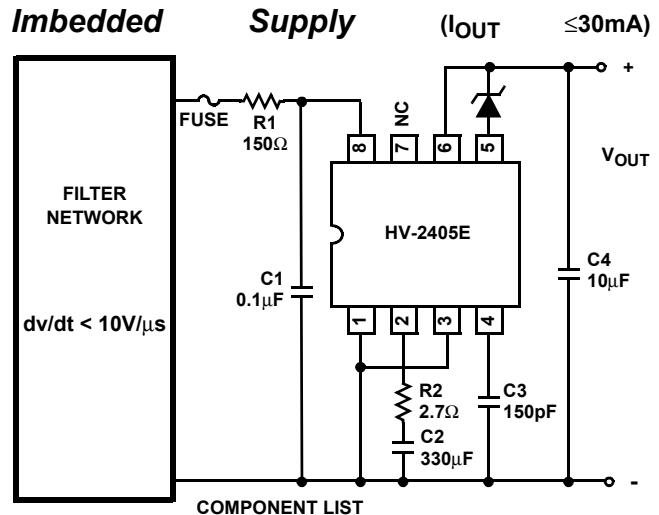
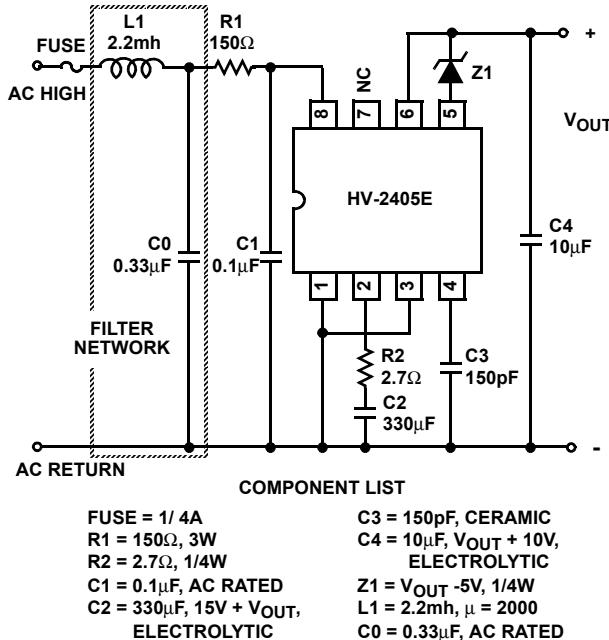

FIGURE 7. IMBEDDED SUPPLY I_{OUT} ≤ 30mA
FIGURE 8. IMBEDDED SUPPLY WITH EMI FILTER ($I_{OUT} \leq 30\text{mA}$)
For applications requiring 30mA or less and not directly off line (i.e. filter network preceding supply), the external transistor and associated resistors in Figure 1 can be replaced with a single 1/4W resistor R2 and capacitor C3 (Figure 7) if: (1) The filter network reduces the input dv/dt to less than 10V/μs (ensures sufficient pin 2 voltage at turn off), (2)
For applications where EMI (conductive interference) is a design requirement, the circuit shown in Figure 8 is the recommended application circuit. This circuit delivers an output voltage of 5V to 24V with an output current from 0 to 30mA and passes VDE 0871 class "B" test requirements for conductive interference with a resistive load.
The circuits shown in Figure 7 and Figure 8 provide a regulated 5V to 24V_{DC} output voltage that is set by adjusting the value of Z1. The output voltage of the HV-2405E (pin 6) is set by feedback to the sense pin (pin 5). The output will rise to the voltage necessary to keep the sense pin at 5V. The output voltage is equal to the Zener voltage (V_{Z1}) plus the 5V on the sense pin. For a 5V output, pin 5 and pin 6 would be shorted together. The output voltage has the accuracy